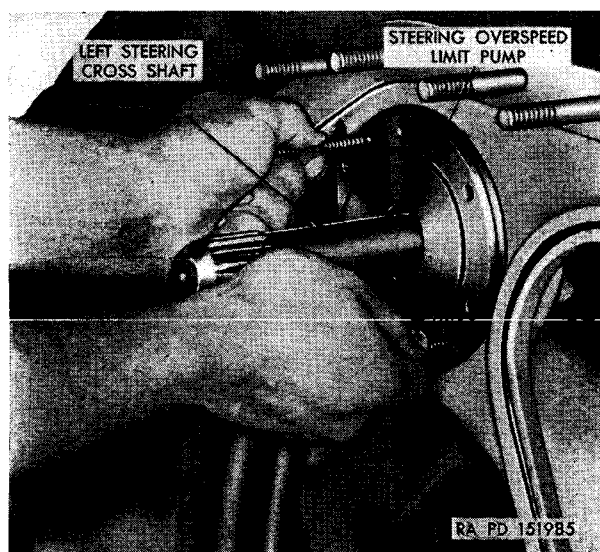
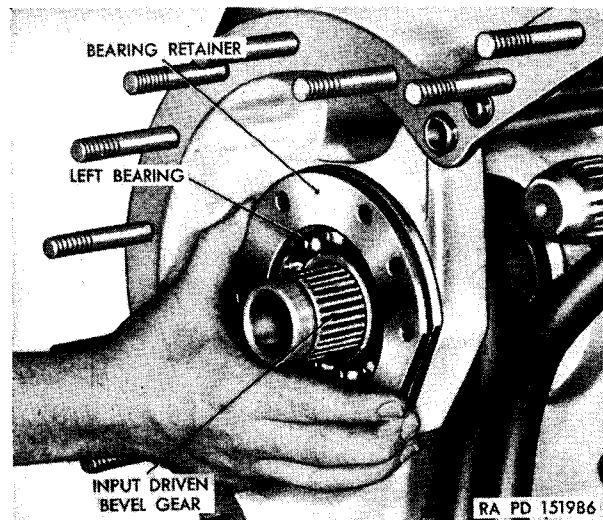

Figure 246. Removing steering-overspeed-limit pump.
Figure 247. Removing or installing bearing retainer.
- (1) Using a $\frac{1}{2}$ -inch wrench, remove six bolts from the steering-over-speed-limit pump and remove it from the housing (fig. 246). Using a $\frac{1}{16}$ -inch wrench, remove six bolts from the input-driven-bevel gear left bearing retainer and remove it from the housing (fig. 247).